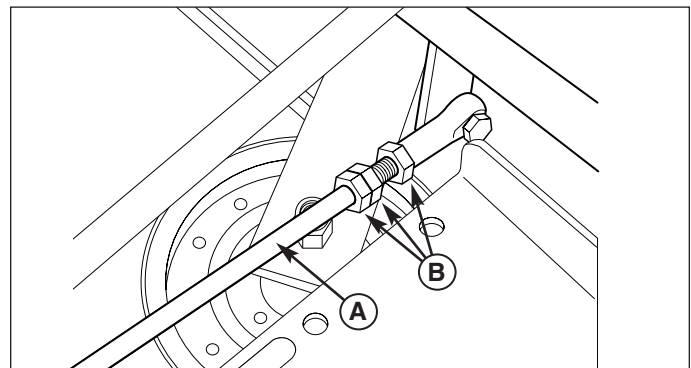

Figure 29. Neutral Adjustment
2. There are three (3) nuts on the linkage rod. The first two are to be used together to turn the rod and the third (towards the front of the machine) is used to lock the rod in place. Loosen the jam nut that locks against the clevis (B, Figure 29) and turn the linkage rod (A, Figure 29) to adjust. If the machine creeps forward, turn the rod **CLOCKWISE** (while standing at the rear of the machine, facing forward), if the machine creeps backward, turn the rod **COUNTER-CLOCKWISE**.
3. Lock the jam nut (B, Figure 29) against the clevis when neutral is achieved.